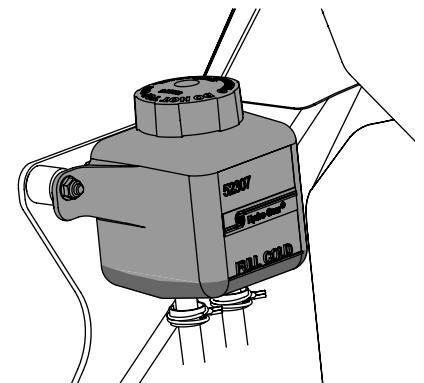

Figure 4-7
- Clean the reservoir cap and the area around the cap to prevent debris from contaminating the transmission oil. See Figure 4-7.
- Turn the reservoir cap counterclockwise to re-move, then check the oil level in the reservoir. Oil should be visible at the bottom of the cup, but the oil level must NOT be above the "FULL COLD" line. See Figure 4-7. DO NOT FILL THE RESERVOIR.